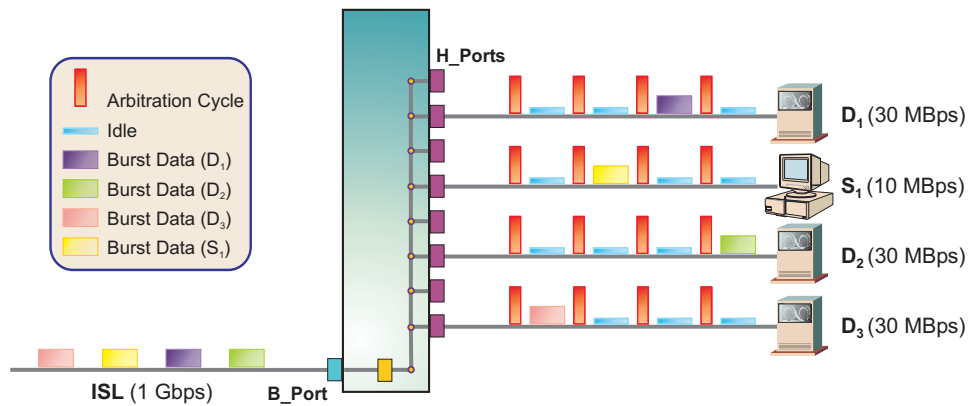

Figure 32: ISL bandwidth limitation
- Although the B_Port connection (ISL) between the director and switch is a 1.0625 Gbps serial connection, burst transmissions from multiple FC-AL devices are multiplexed and buffered (the link BB_Credit value is eight) and may coexist in the link. Therefore, the sum of the bandwidths of all devices contending for B_Port access should not exceed 1.0625 Gbps. Exceeding the total bandwidth may result in degraded performance, as shown in Figure 32.